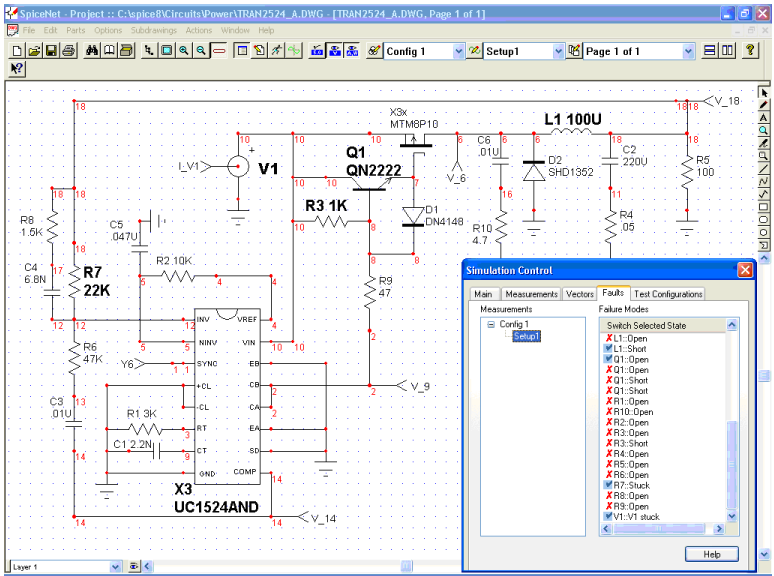
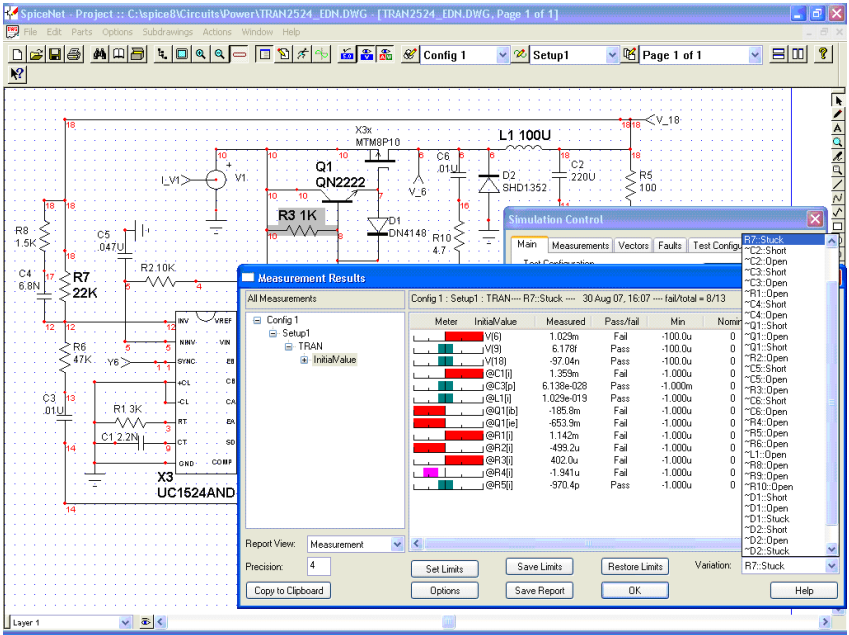
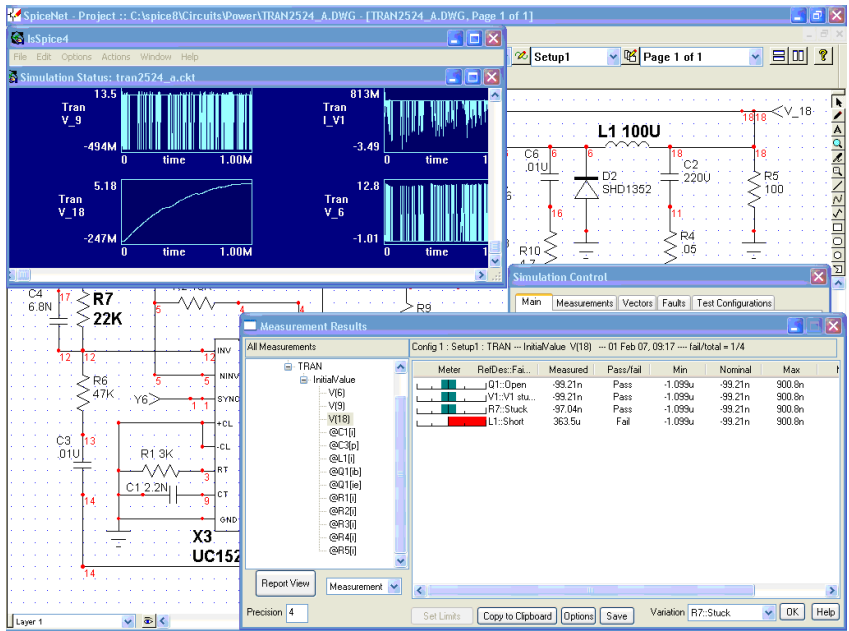

Figure 11: Three new faults were added to the list and simulations for the four faults will run automatically
Figure 12: Multiple faults simulated with “R7 stuck” selected, which affects the “measured” readings on left
Figure 13: Effects of all enabled faults on signal line V\_18
Figure 11 displays multiple faults enabled for simulation. Note that three new faults were added (R7 stuck at 1K ohms, R3 short and source V1 stuck at 4.9v). Post simulation results are shown in Figure 12.
The top five fault selections in Figure 12's list are enabled (corresponding labels put in bold text on the schematic). After simulation, these faults can be randomly selected from the "Variation" menu as shown, to quickly view corresponding changes in the measured readouts on the left. Figure 13 provides a breakout of the "initial value" devices and signals on the left, showing the measured data (right) that the four enabled faults produced for the selected signal V(18). All of these features provide a fast "what-if" analysis of how faults affect critical devices and signal lines. Also shown are thumbnail simulation waveforms that display in real time during fault runs, with V(18) in the low left corner.